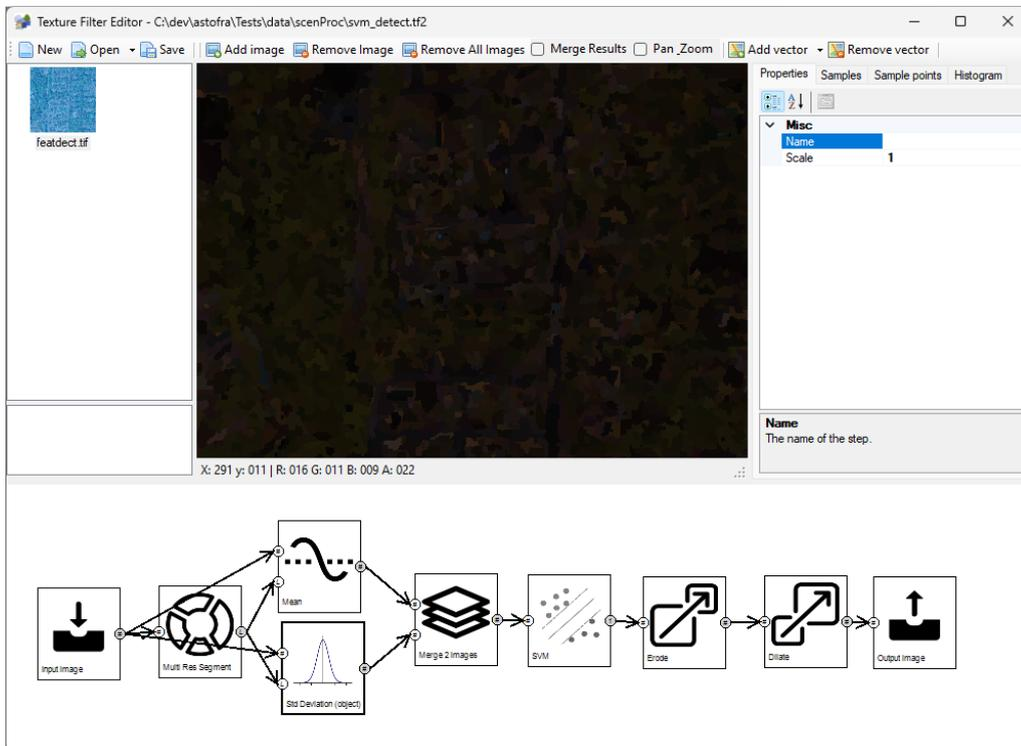

Figure 6.52: The standard deviation of each segment
- The standard deviation of the color and NIR values for each of the objects in the image is calculated, see Figure 6.52.